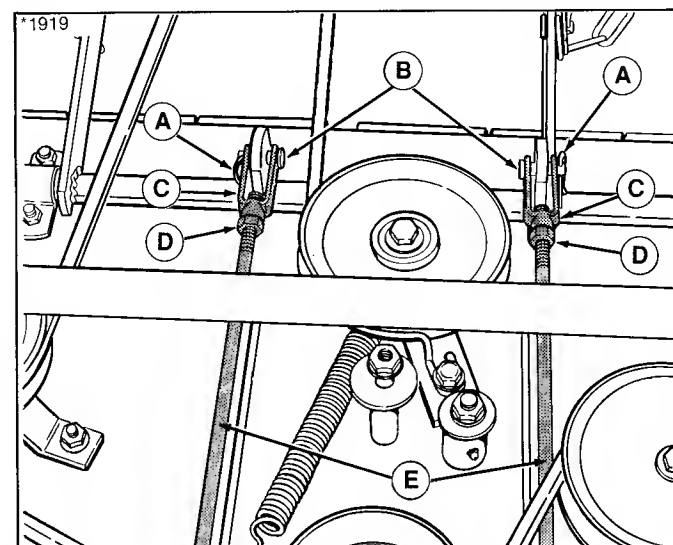

Figure 47. Front-to-Back Leveling
4. Turn the blades front-to-back. Measure the distance from the ground to the front tip of the center blade, and from the ground to rear tips of left-hand and right-hand blades. Measurement should be equal. For adjustment, refer to figure 47.